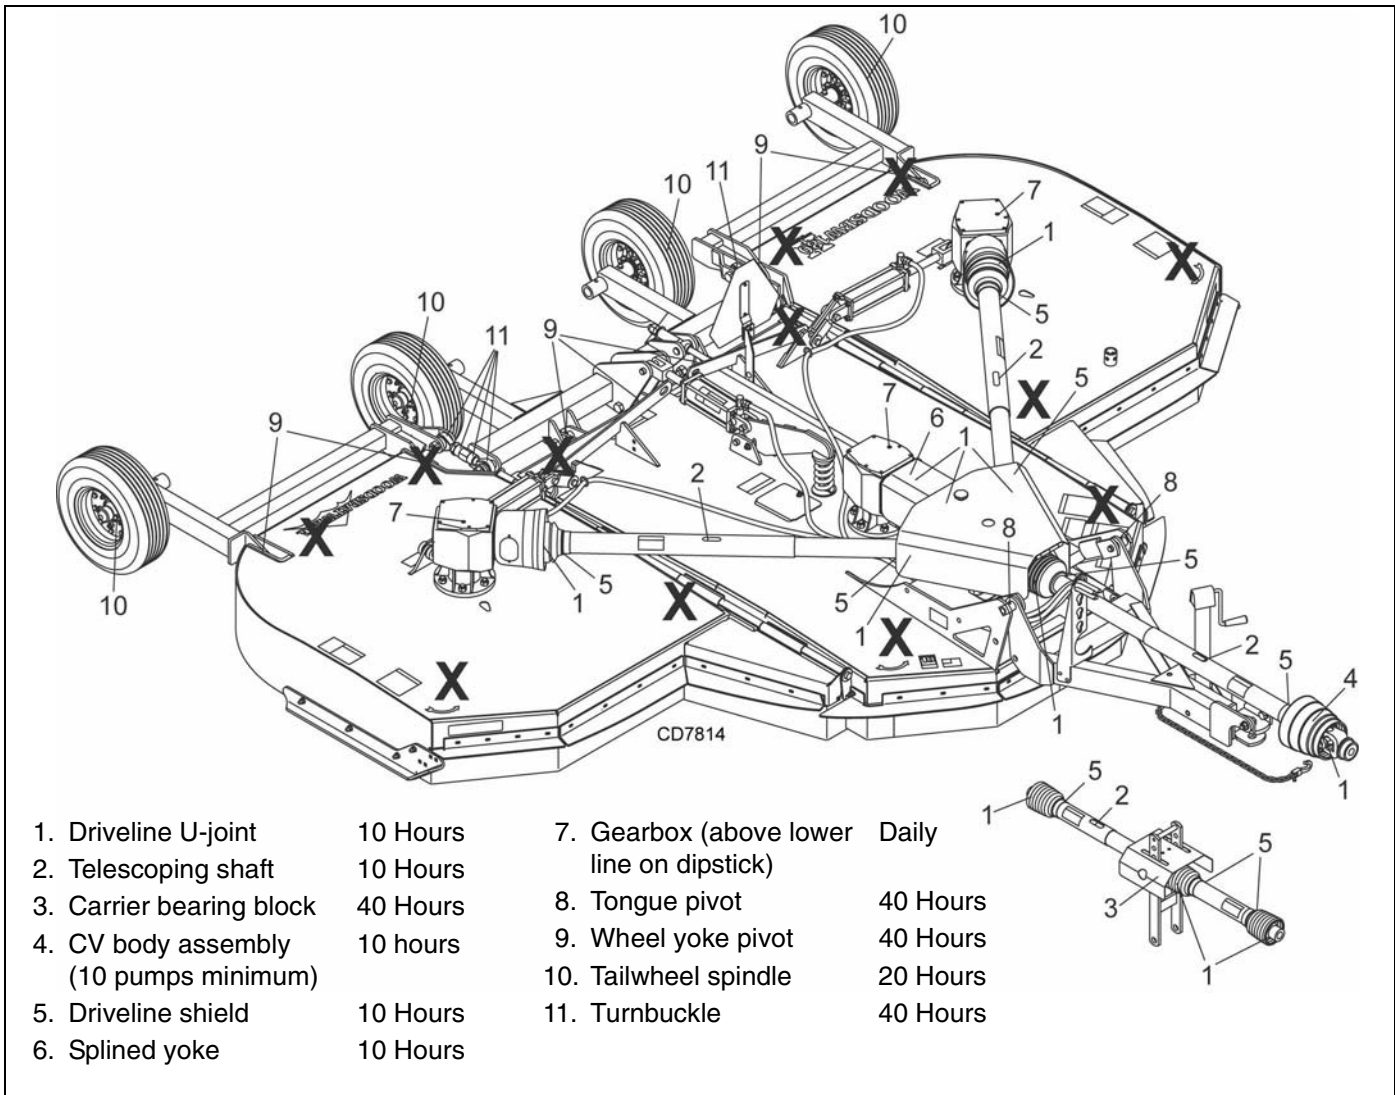

Figure 5. Jackstand Placement and Lubrication Points
1. Jackstands with a load rating of 1000 lbs. or more are the only approved blocking device for this cutter. Install jackstands (shown by Xs in Figure 5) under the cutter before working underneath unit.
See Figure 5 for lubrication points and frequency or lubrication based on normal operating conditions. Severe or unusual conditions may require more frequent lubrication.
2. Raise cutter and block securely (see Figure 5).
3. Align crossbar (10) with blade access hole in the cutter frame. Remove cap screw (52), blade pin